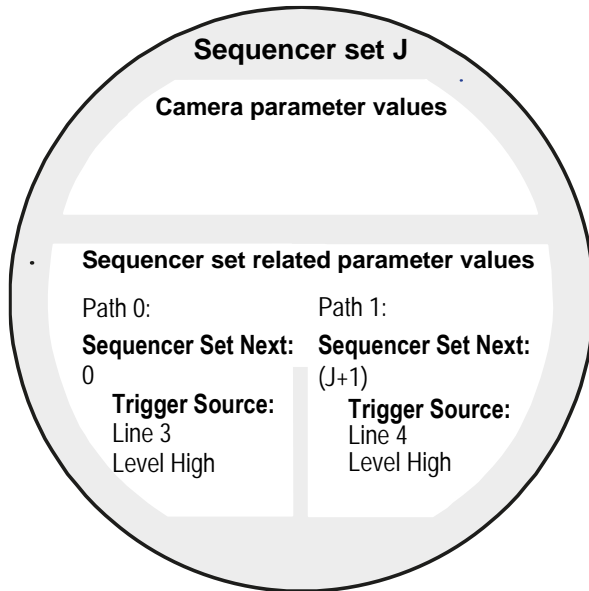

Fig. 86: Sequencer Parameters of Sequencer Set with Index Number J (Most Parameter Values as Examples)
The sequencer parameters can be divided into two types (see Figure 86):
- **Sequencer set related** parameters for sequencer control. The parameters define the details of advancing from one sequencer set to the next. This includes the possibility of choosing between different "paths" for advance, thus allowing to choose between different sequencer sets (see Figure 86 and Section 7.7.2.2).
For each path, the following parameters must be set (see also Figure 86):
- For each selected sequencer trigger source, the following parameter must be set (see also Figure 86):